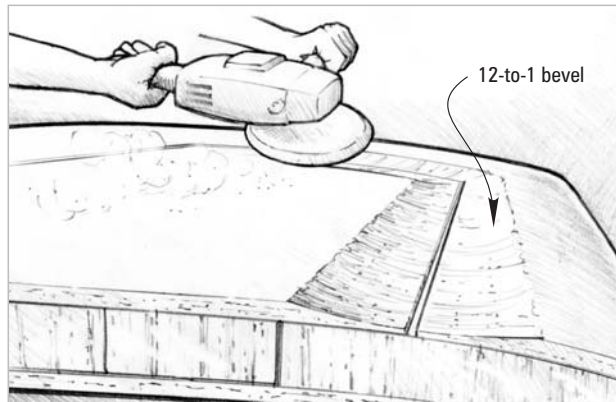

Figure 5-7 Grind a 12-to-1 bevel on the edges of the joint, so the joint repair patch can be faired flush with the surface.
4. Grind a 12-to-1 bevel on both edges of the joint and laminate a repair patch over the joint to restore skin continuity (*Figure 5-7*). The bevel will provide a recessed bonding area for the application of fiberglass fabric and allow the patch to be faired flush with the surface. The objective and procedure for patching the joint are the same as repairing damaged skins. Follow the procedure described in Section 4.3.